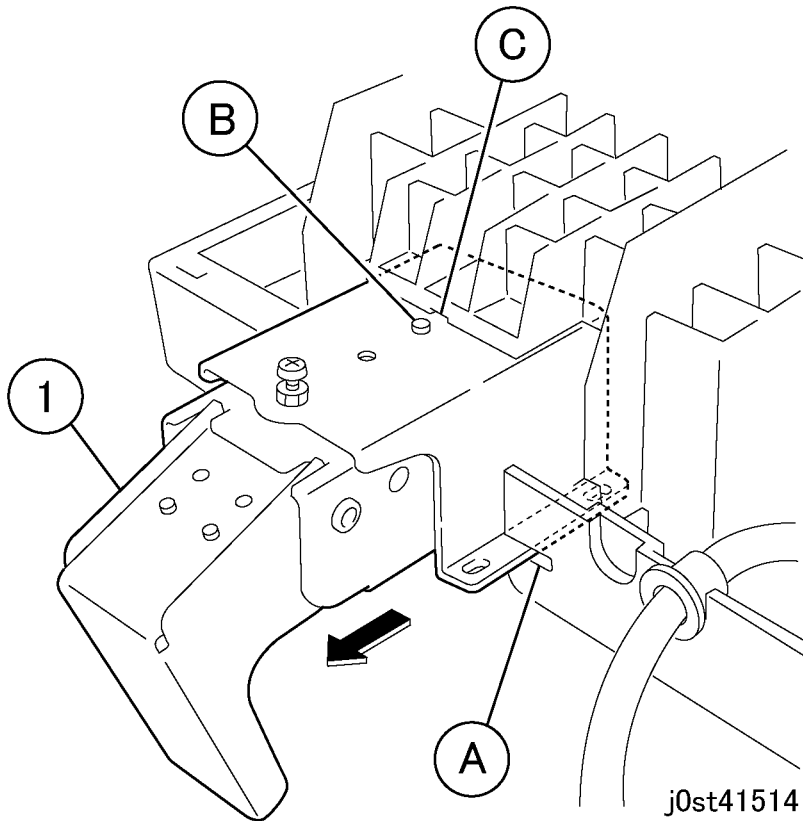

Figure 2 Removing the Right Counter Balance
3. Remove the Retard Roll Bracket and spring. (Figure 2)